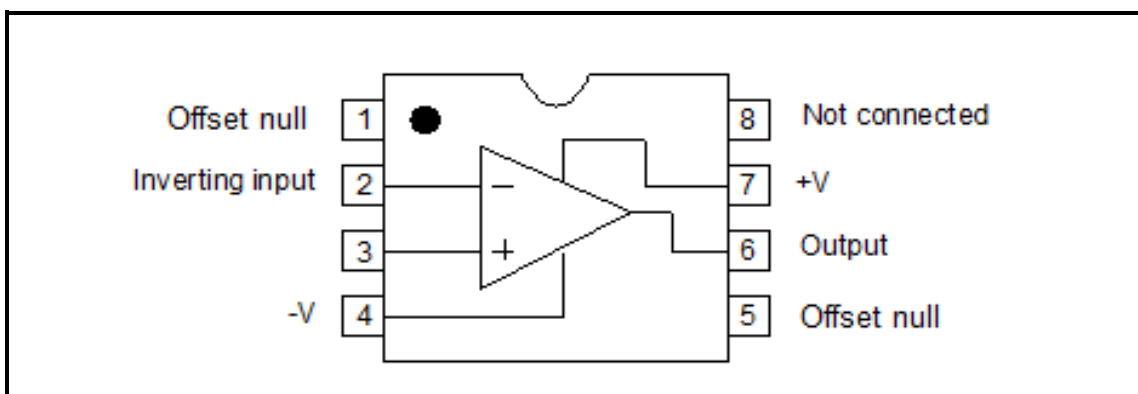

FIGURE 3.1: 741 OP AMP
3.1 FIGURE 3.1 below shows the 741 op amp. Answer the questions that follow.